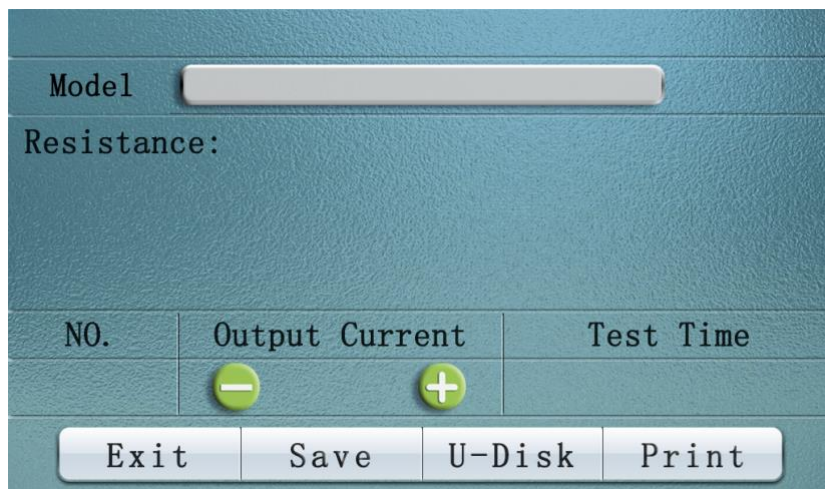

Figure 3
3、 After the current is selected, click "**Start test**", which shows that "please wait while charging" enters the test state. After a few seconds, the test result will be displayed, as shown in figure 3